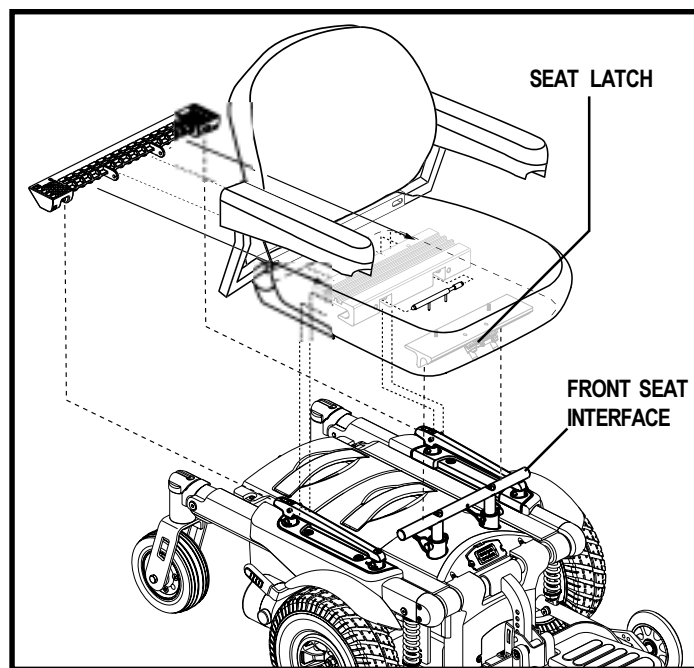

Figure 12. Seat Installation
4. Slide the seat onto the side frame handles and slowly lower the seat onto the front seat interface until it locks into place. See figure 12.